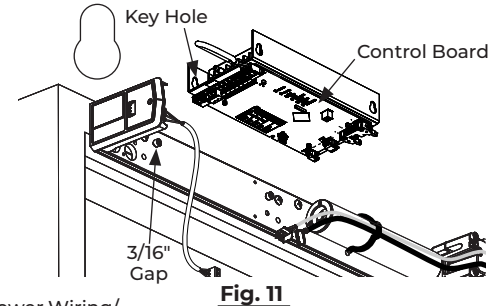

Fig. 11
1. Insert two (2) 1/4-20 x 3/8" screws as shown, leaving an approximate 3/16" gap between the head of the screws and backplate. (Fig. 11)
2. Slide power supply key holes over screws allowing narrow slots of key holes to rest on screws. (Fig. 11)